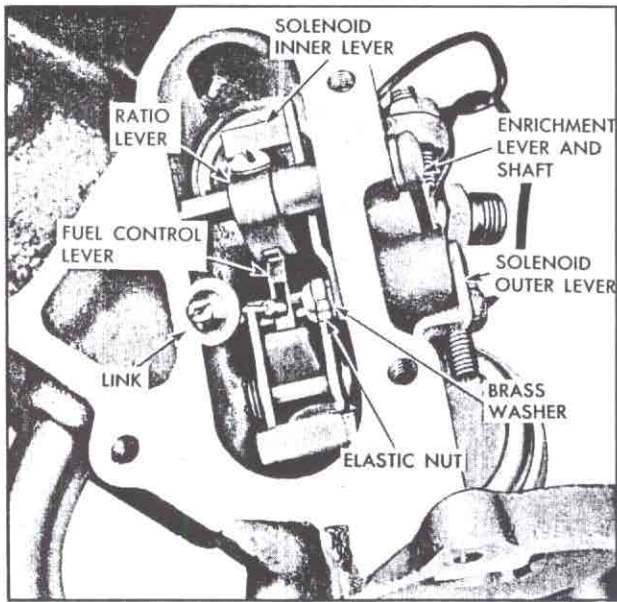

Fig. 147—Fuel Control Components
5. Position small brass washer (fig. 147) and solenoid inner lever on the outer lever shaft inside fuel meter and secure inner lever with  $\frac{1}{4}$ " elastic nut.
6. Position ratio lever (fig. 147) inside fuel meter, then insert enrichment lever shaft through side of fuel meter and through ratio lever. Be sure enrichment lever shaft is inserted its full distance and that ratio lever is centered over fuel control lever, then tighten set screw in ratio lever.